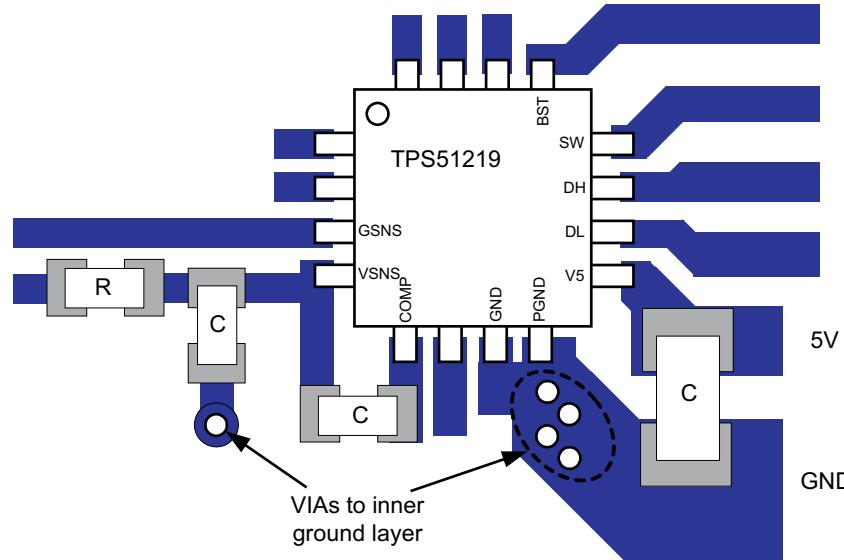
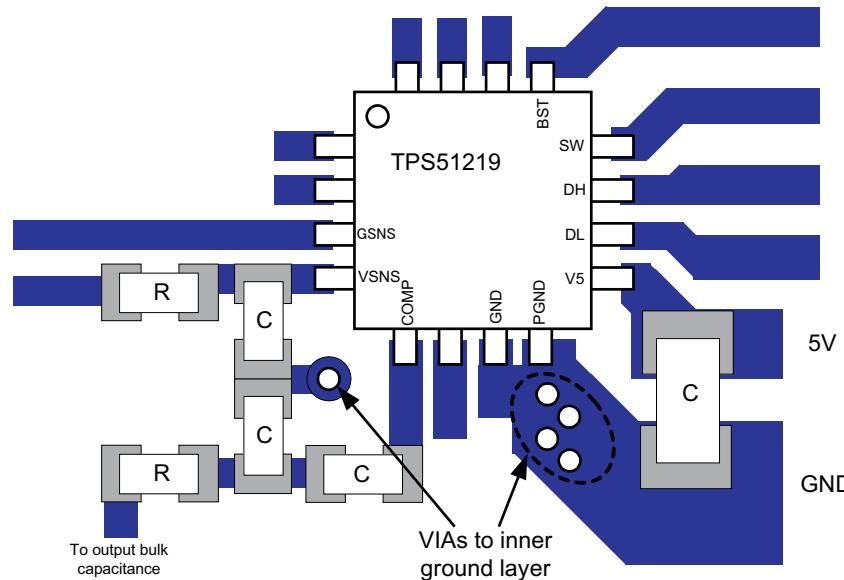

Figure 31. Case 1: COMP Pin Capacitance Connected to VSNS
Figure 32. Case 2: COMP Pin Capacitance Connected to Output Bulk Capacitance
- Connect VSNS directly to the output voltage sense point at the load device. Connect GSNS to ground return points at the load device. Insert a 10- Ω , 1-nF, R-C filter between the sense point and the VSNS pin where the COMP capacitance is connected as shown in Case 1 (Figure 31). When the COMP pin capacitance is connected to output bulk capacitance, connect the R-C filter in series to both the VSNS pin and the COMP capacitance as shown in Case 2 (Figure 32).